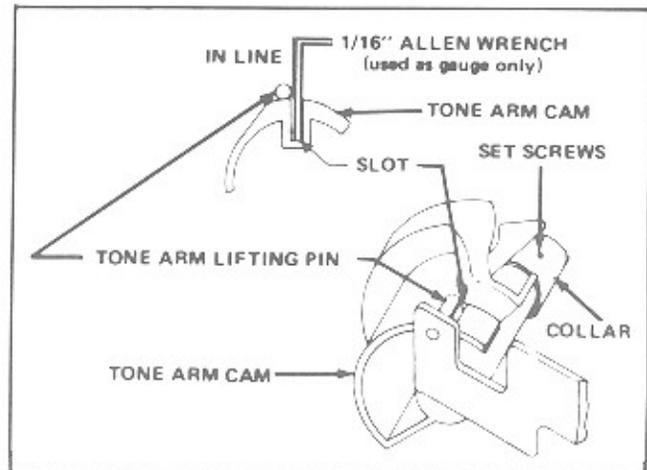

Figure 3-13. Tone Arm Cam Position
5. Position tone arm cam so that the outside diameter of the tone arm lifting pin is in line with the edge of the slot in the cam, as shown in figure 3-13.